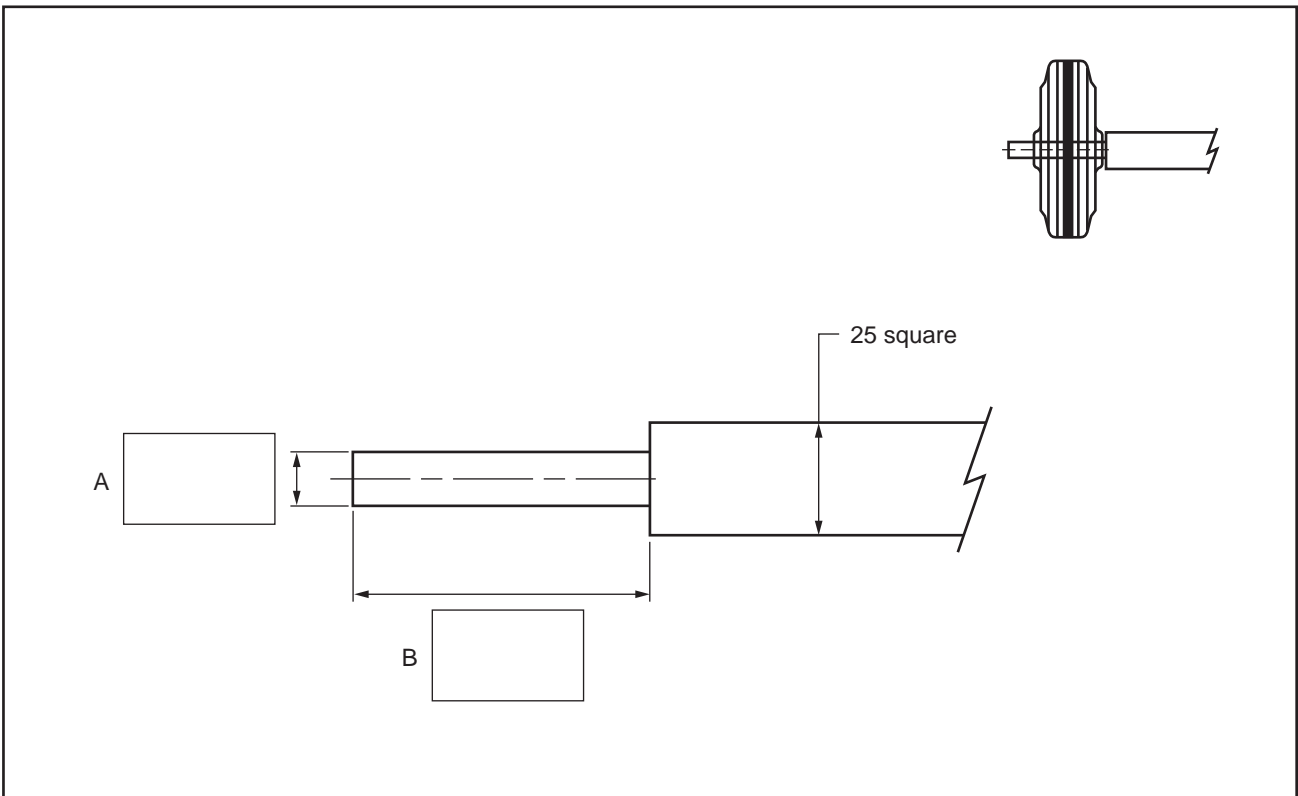

Figure 11
d. Figure 11 shows a sketch of one end of the axle shown in Figure 10.
i. Complete the drawing of the end of the axle shown in Figure 11 by adding the two missing dimensions, A and B, in the boxes provided and by drawing a design for a way of securing the wheel to the axle. 3 marks
What is the **best** work holding method to turn the diameter A in Figure 11 for this task? 1 mark